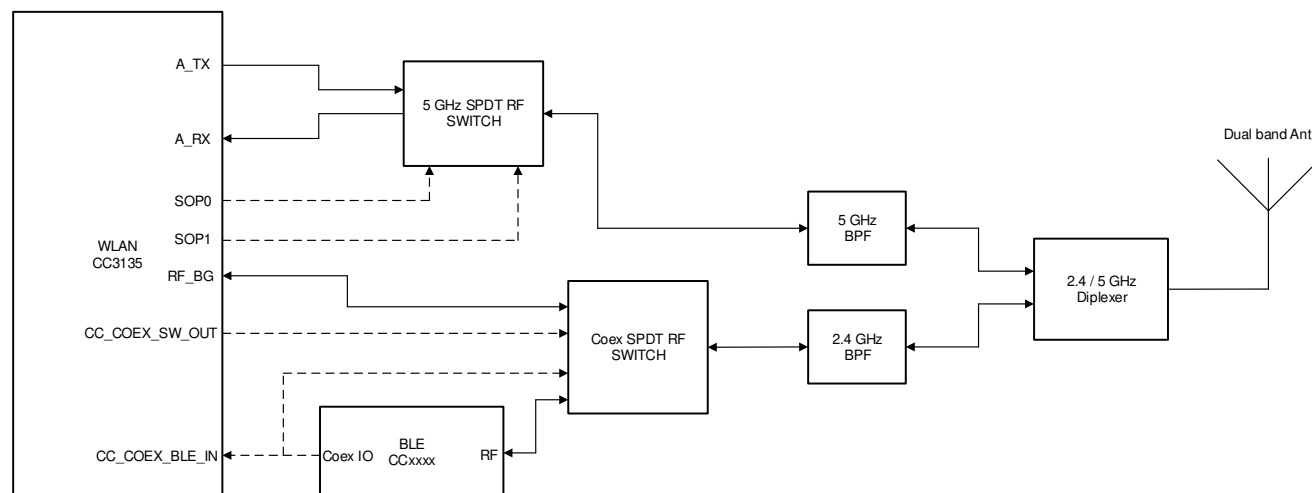

Figure 9-2. Single Antenna Coexistence Solution with 5GHz Wi-Fi®
- 5GHz Wi-Fi band (see Figure 9-2)
Figure 9-2 shows the single antenna implementation of a complete Bluetooth® low energy and WLAN coexistence network with the WLAN operating on either a 2.4- or a 5GHz band. The SOP lines control the 5GHz switch. The Coex switch is controlled by a GPIO signal from the BLE device and a GPIO signal from the CC3135 device.